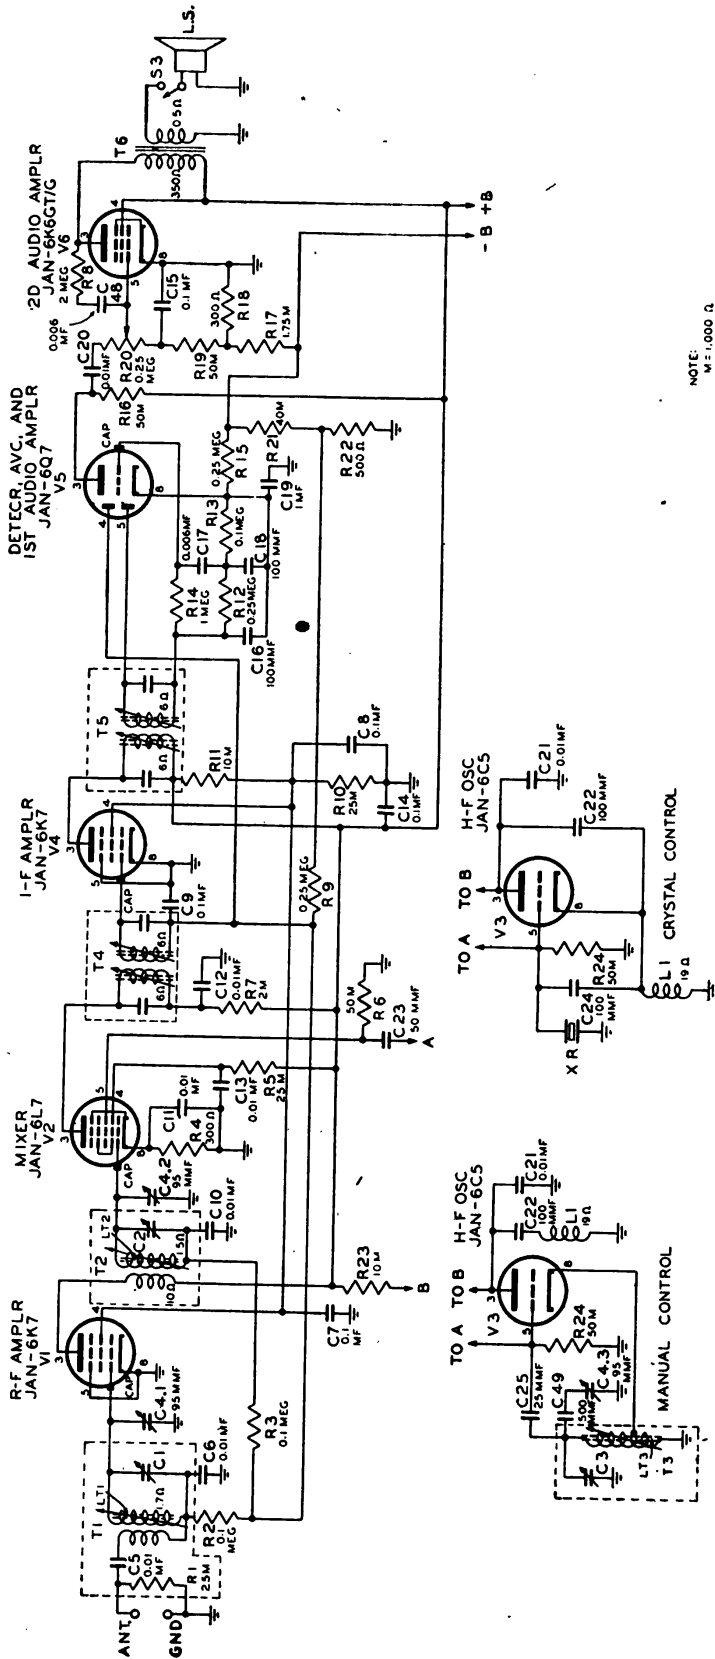

Figure 19. Radio Receiver and Transmitter BC-441-D, simplified receiver circuit.
b. D-c (direct-current) bias and automatic-volume-control voltage for the grid of V1 are provided through resistor R2, and are isolated from the antenna by capacitor C5 (fig. 19). Resistor R1 drains static charges from the antenna. V1, a high-gain pentode tube, amplifies the signal before feeding it to the grid of Tube JAN-6L7, V2, through a tuned circuit consisting of transformer T2, trimmer capacitor C2, and a second section of tuning capacitor C4.2. In Radio Sets SCR-281-A and -B, additional coupling is provided between tubes V1 and V2 by coupling capacitor C48 (fig. 36). Bypass capacitor C6 provides a low-impedance path to ground for r-f currents (fig. 19). In Radio Set SCR-281-D C10 is a mixer bias bypass capacitor. The tracking between the antenna and
a. Tube V3, used as a h-f oscillator (fig. 19), provides a signal 385 kc above or below the received signal frequency. CRYSTAL-MANUAL switch S1 permits crystal-controlled oscillations or self-oscillations tunable over the entire range.
a. The amplified i-f signal from T5 (fig. 19) is applied to one diode plate of V5 where it is rectified. The result is the development of a d-c bias across resistors R12 and R13, as well as an a-f voltage proportional to the voice modulation envelope of the received signal. R-f voltages across resistors R12 and R13 are bypassed to the cathode of V5 by capacitors C16 and C18. The audio signal is fed to the triode section grid of V5 through C17 where it is amplified and appears across resistor R16.
(3) Simplified and partial schematic diagrams (figs. 19, 20, 21, and 22). These diagrams are particularly useful in trouble shooting, because the repairman can follow the electrical functioning of the circuits more easily than on the regular schematics, thus speeding trouble location.